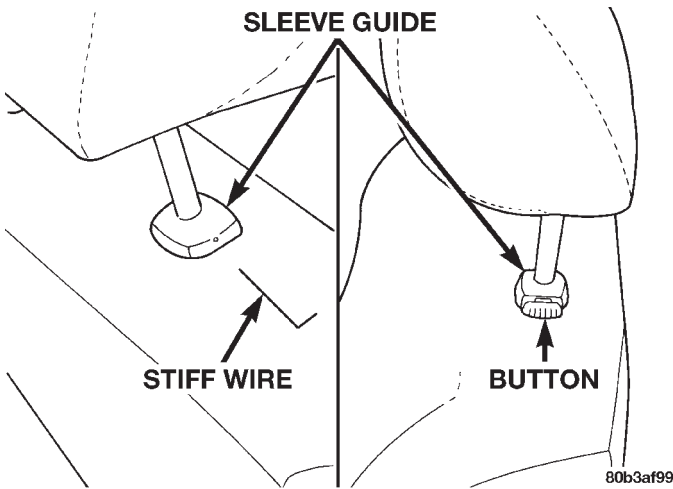

Fig. 2 Head Restraint Removal
- (1) Lower head restraint slightly.
- (2) Insert a stiff wire into the hole on the right hand side head restraint sleeve/guide and push to release latch (Fig. 2).
- (3) At the same time, press the button on the head restraint sleeve/guide left hand side and pull upward to release the head restraint.
- (4) Remove head restraint from seat back.